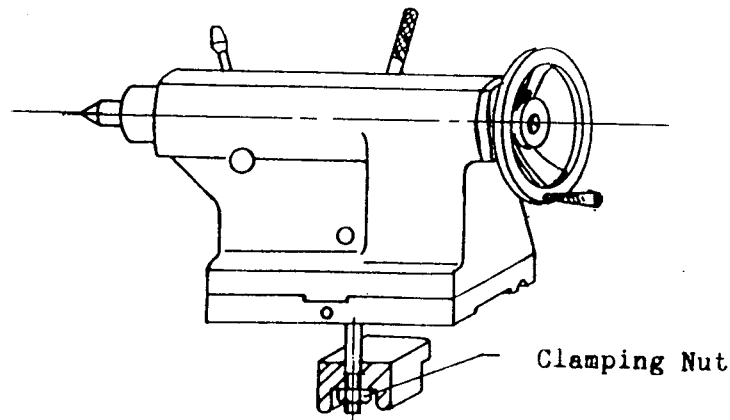

Fig. 10.
- (1) Move the tailstock to the extreme right end.
- (2) Release clamping handle.
- (3) Tighten clamping nut slightly (Figure 10).
- (4) Check for proper clamping force.